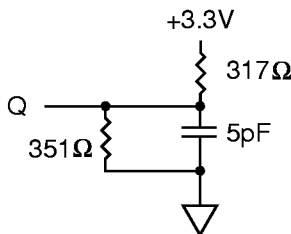
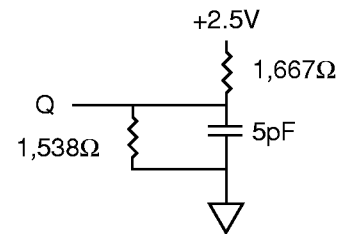

Figure 2
Figure 4
- This parameter is measured with output load as shown in Figure 2 for 3.3V I/O and Figure 4 for 2.5V I/O.